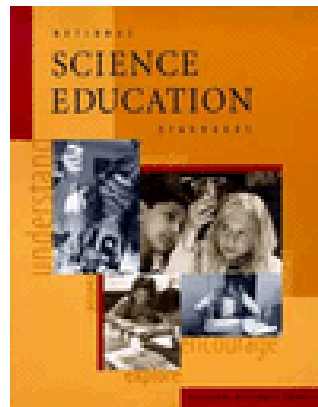

Figure 4B. *National Science Education Standards*.
- *National Science Education Standards (Chapter 6 - Science Content Standards)*: Published by National Research Council (NRC, 1996, Figure 4B). http://www.nap.edu/openbook.php?record_id=4962&page=103